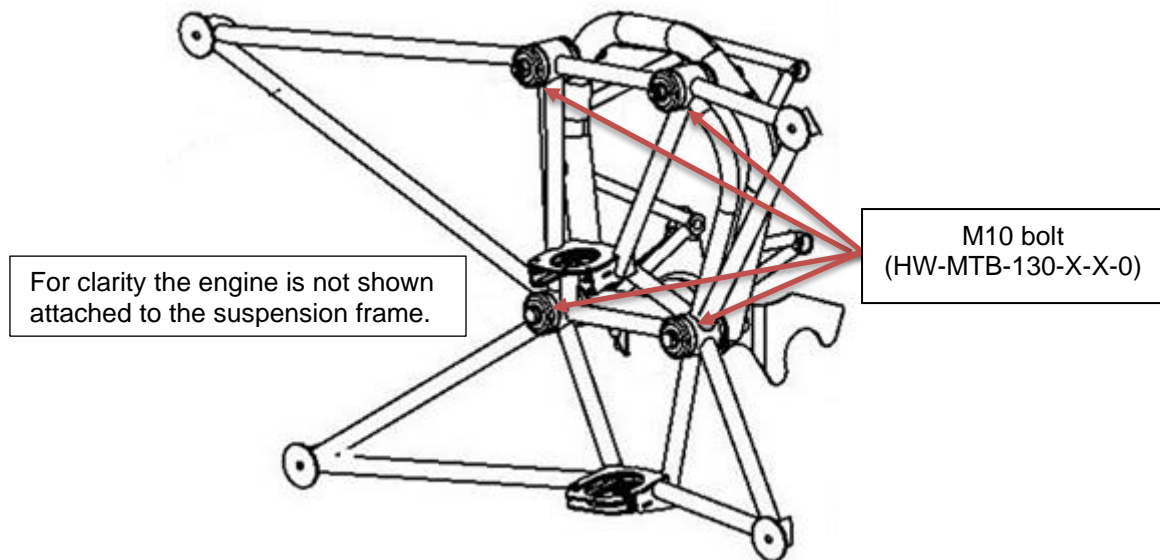

Figure 1: Sling 2 engine mount to engine frame attachment
- Step 2: The four M10 bolts (HW-MTB-130-X-X-0) that mount the engine to the engine frame need to be replaced. These bolts can be seen in the exploded view of the engine mount in Figure 1.